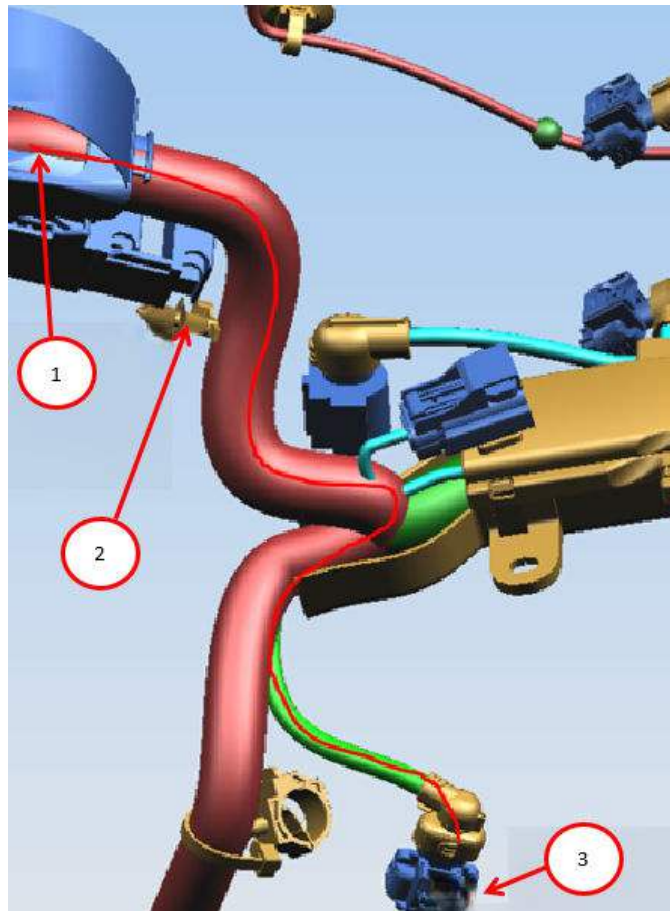

Fig. 4
7. Remove the tie strap on the C2 harness trough Fig. 4.
8. Remove the clip Raymond on C2 harness Fig. 4.
9. Remove the tape on C2 harness Fig. 4.
10. Extract the terminals from the Camshaft Sensor 3W connector Fig. 4.